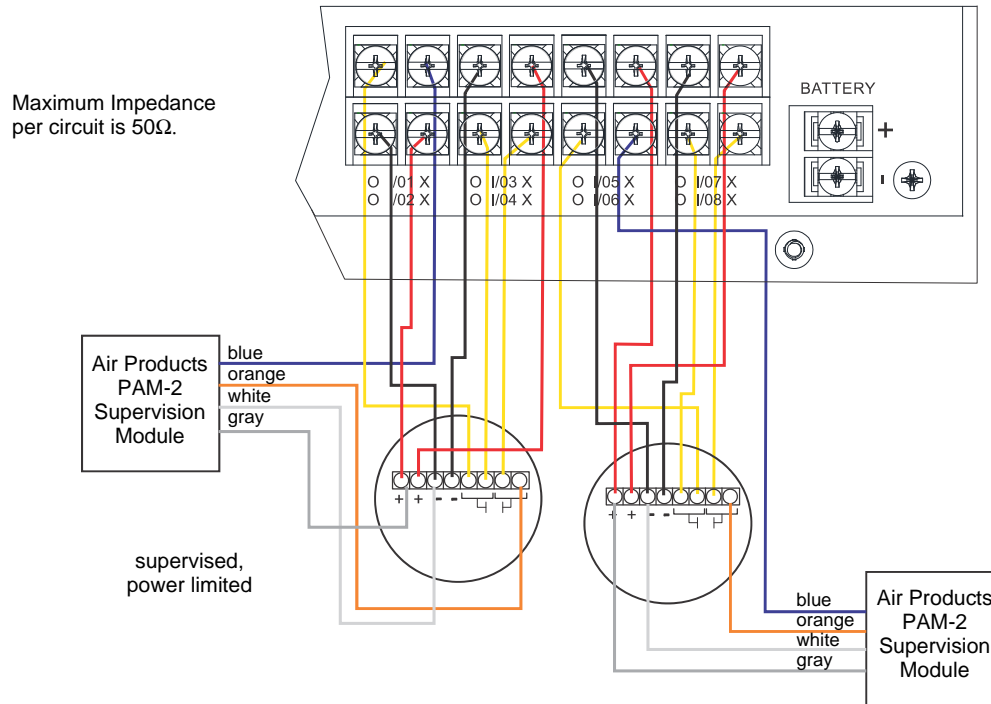

Figure 4.45 Class A 4-Wire Smoke Detector Connections
Figure 4.45 illustrates how to install a 4-wire Class A detector. Conventions used for wiring 4-wire Class A loops:
**NOTE:** In programming, any point that uses multiple Flexput circuits are always referred to as the lowest Flexput circuit number used. For example, Figure 4.45 uses Flexput circuits 1, 2, 3 together and 4, 5, 6 together. In programming (1, 2, 3) would be referred to as point 1, and (4, 5, 6) would be referred to as point 4.